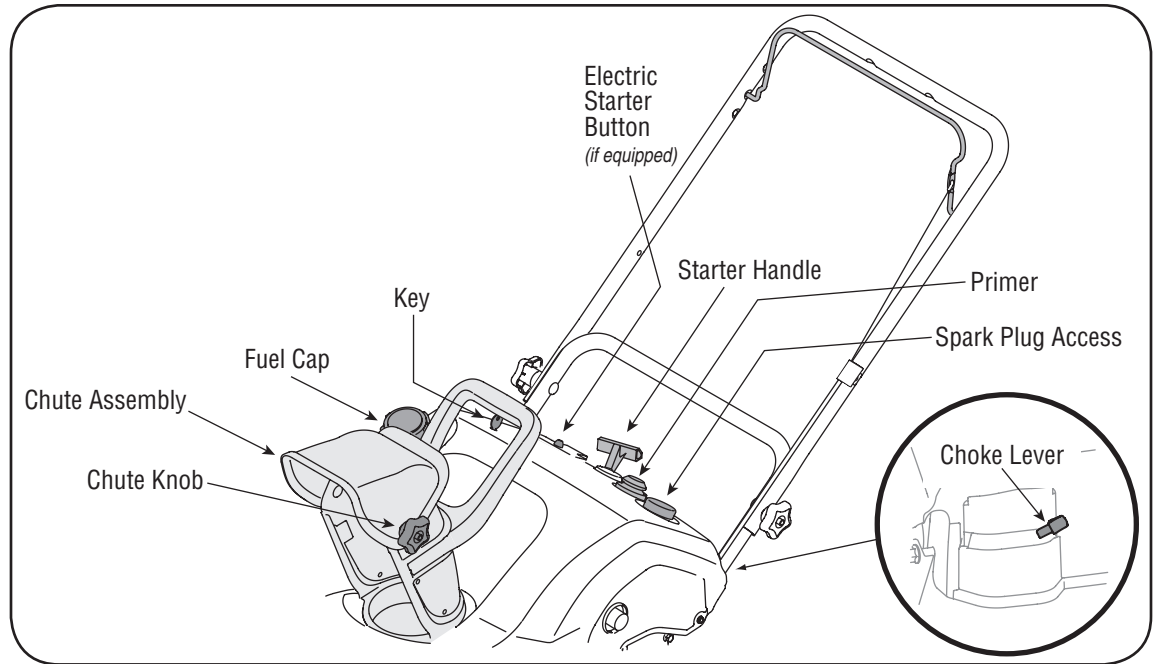

Figure 5-1
- Position the chute assembly opening by using the Chute Handle to throw the snow in the desired direction. See inset Figure 5-1.